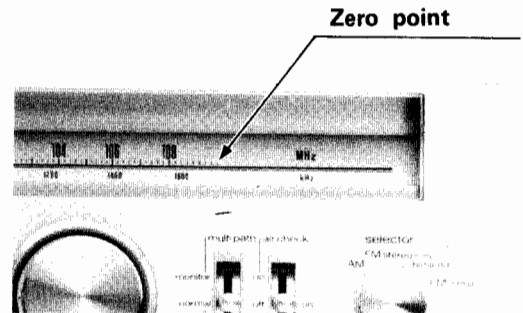

Figure 3-2
2. Align the pointer to the extreme right of the dial scale plate. (See Fig. 3-2.)